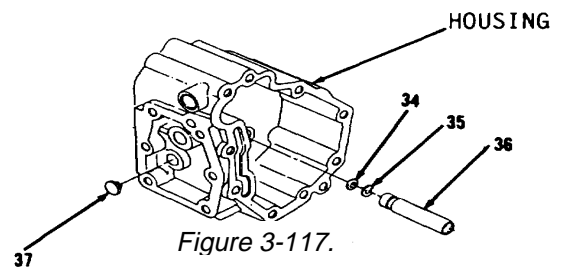

Figure 3-117.
16. Remove and discard seal (34) from guide (36, Figure 3-117) bore.
17. Using snap ring pliers, remove ring (35) from guide (36) bore.